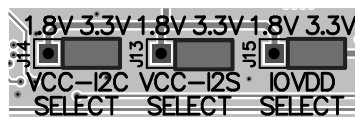

Figure 5. IOVDD Setup
- Set IOVDD to match test device configuration as shown in Figure 5